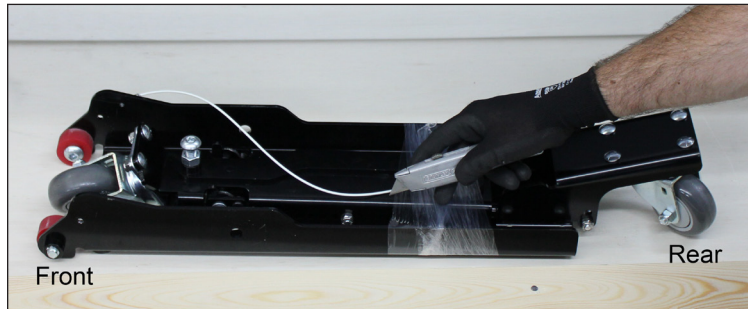

Figure 4: Remove Plastic Wrap from Caster Base
2. Use a utility knife to cut through the plastic wrap around the caster base assembly. Refer to **Figure 4**.